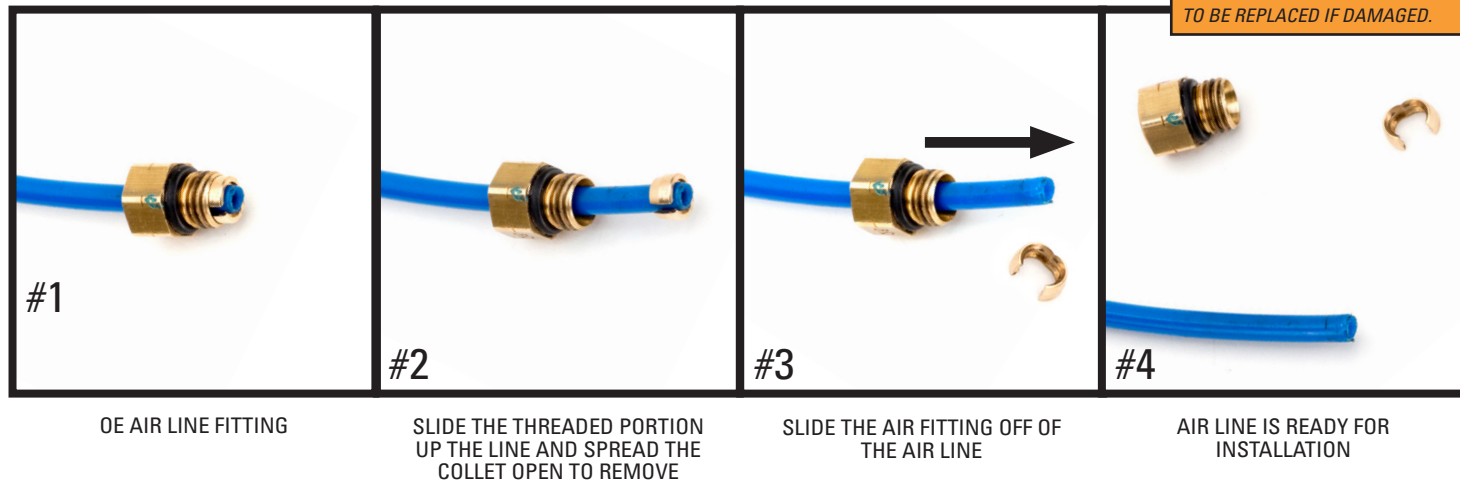

FIGURE 35
9. PREPARE AIR LINE BY REMOVING OLD VOSS FITTING USING THE FIGURE BELOW AS AN EXAMPLE. (FIGURE 35)